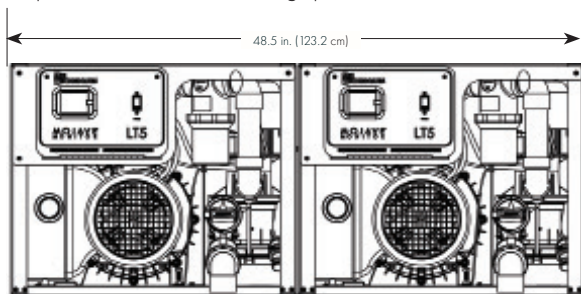

Figure 1. Side by Side 2LT
1. Install the units next to one another with a gap of 0.5 inches between the units. (See Figure 1)
- Install MOJAVE LT units side by side on ground or on Utility Stack Rack XL (See Figures 1 & 2)